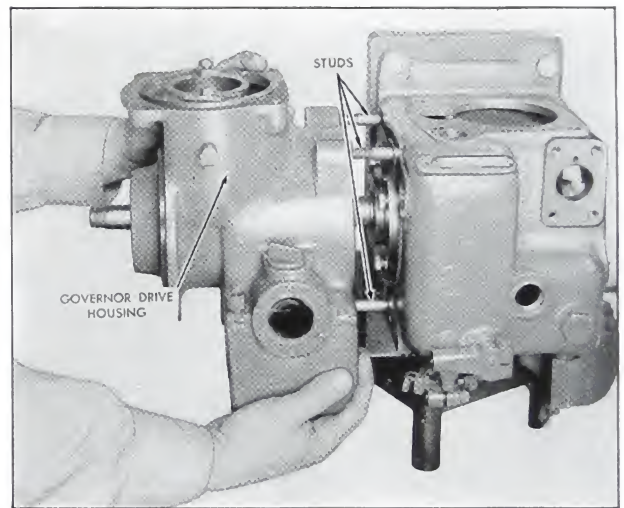

Fig. 5-10. Removing governor drive housing
2. Remove the nuts and lockwashers from the studs holding the governor drive housing to the main housing and slip the governor drive housing from the stud bolts. (Fig. 5-10).